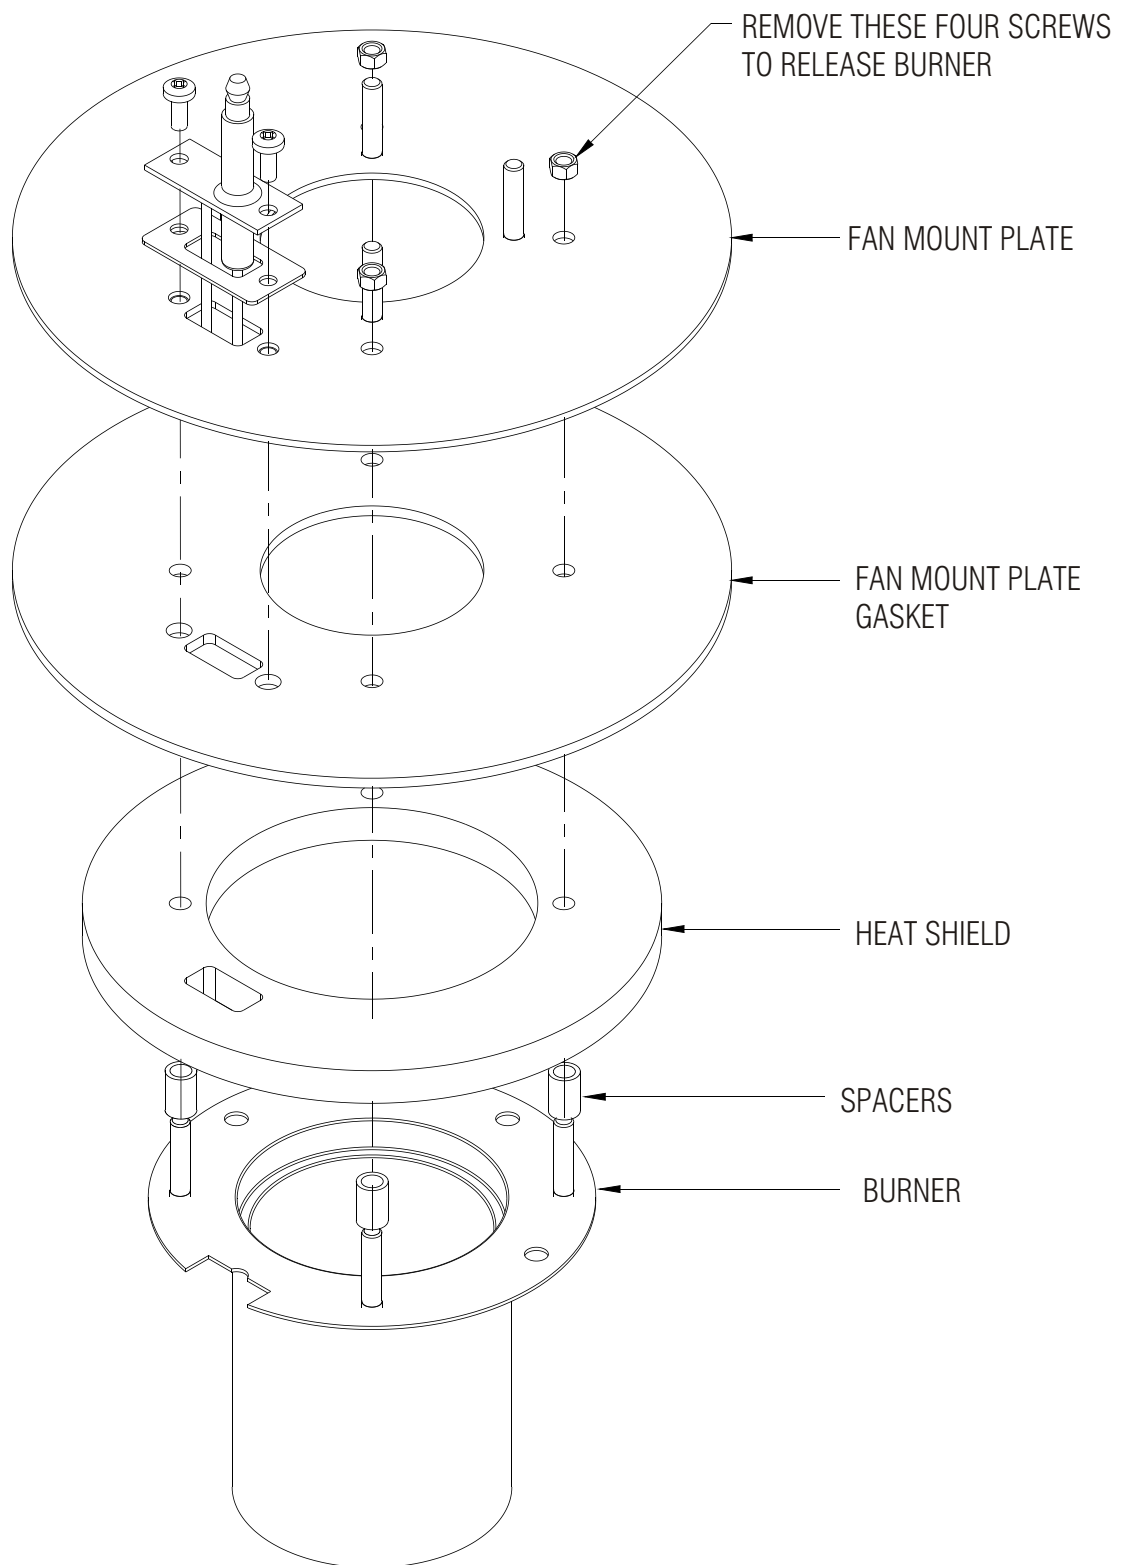

Figure 9A Burner replacement
- iii) Remove the three screws that hold the mixing chamber to the fan housing (see Figure 9A).
- iv) Remove the four nuts that fix the fan assembly to the top cover plate (see Figure 9A) and remove the fan.
- ii) Undo the four nuts that secure the burner (see Fig 9A) and remove it.
- iii) Replace the burner, heat shield insulation and the top cover plate gasket. Pay particular attention to the refitting of the spacers correctly (see Fig 9A).